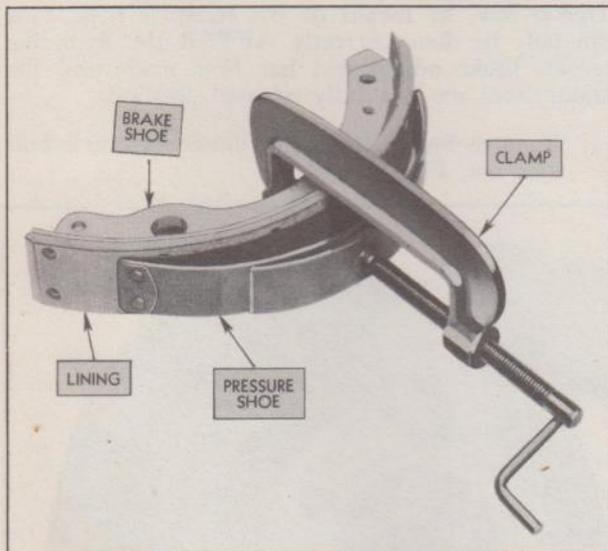

Fig. 18—Installing Brake Lining Clamp
- In order to eliminate air pockets between lining and shoe which might cause uneven contact or squeaky brakes, a brake shoe lining clamp should be used to force the lining against the shoe, Fig. 18.